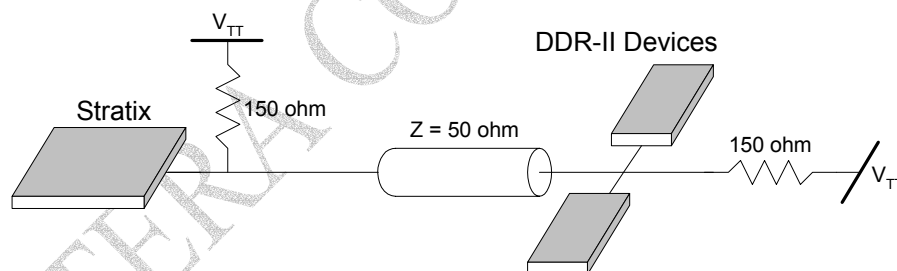

Figure 4-1
11. All signals that are double-loaded (one connection to Stratix and two connections to DDR-II) such as address, command and control should be routed in a Y-shaped connection with the memory-side termination resistor. The general idea is shown in Figure 4-1